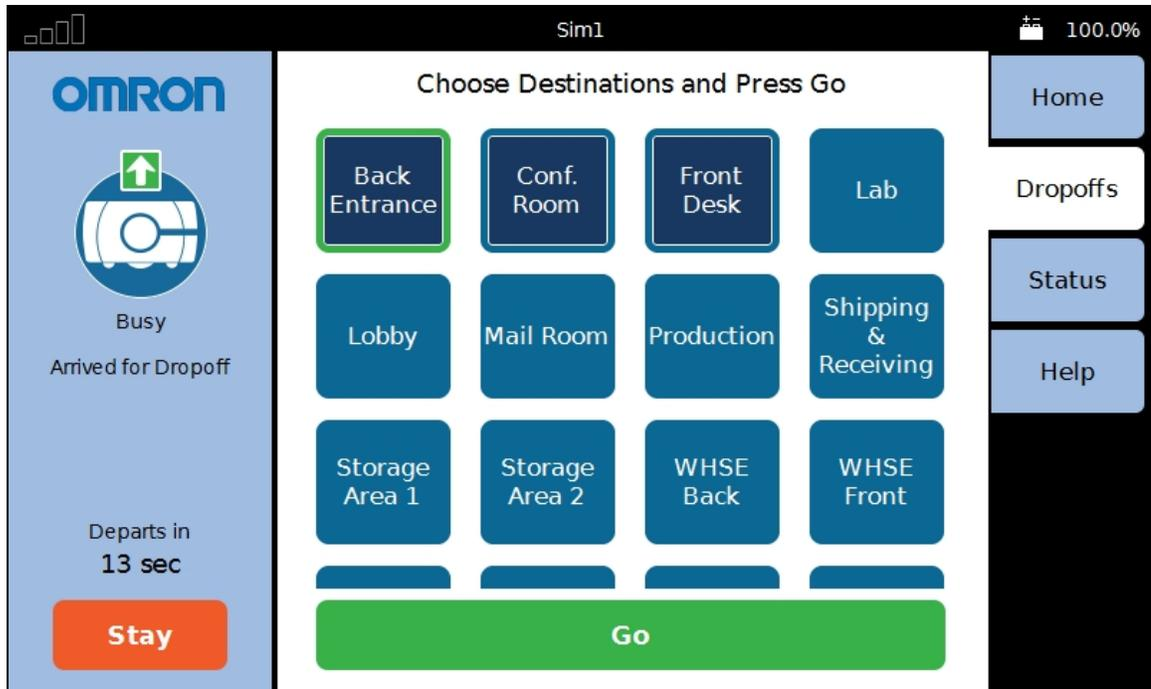

Figure 7-3. Screenshot Showing Top Bar and Left, Right, and Center Panes
**NOTE:** The Busy icon may also include an arrow pointing down, indicating a pickup, an arrow pointing up, indicating it is doing a dropoff, or an exclamation mark, indicating an alert condition. *Figure 7-3.* shows a dropoff.